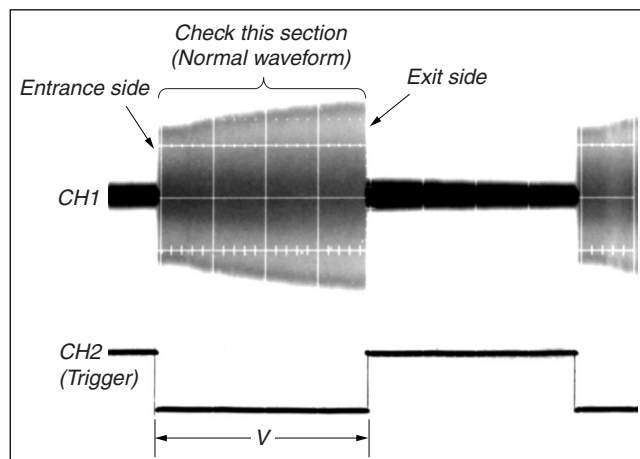

Fig. 5-2-1.
- 9) Check that the oscilloscope RF waveform is normal at the entrance and exit. (Fig. 5-2-1.)